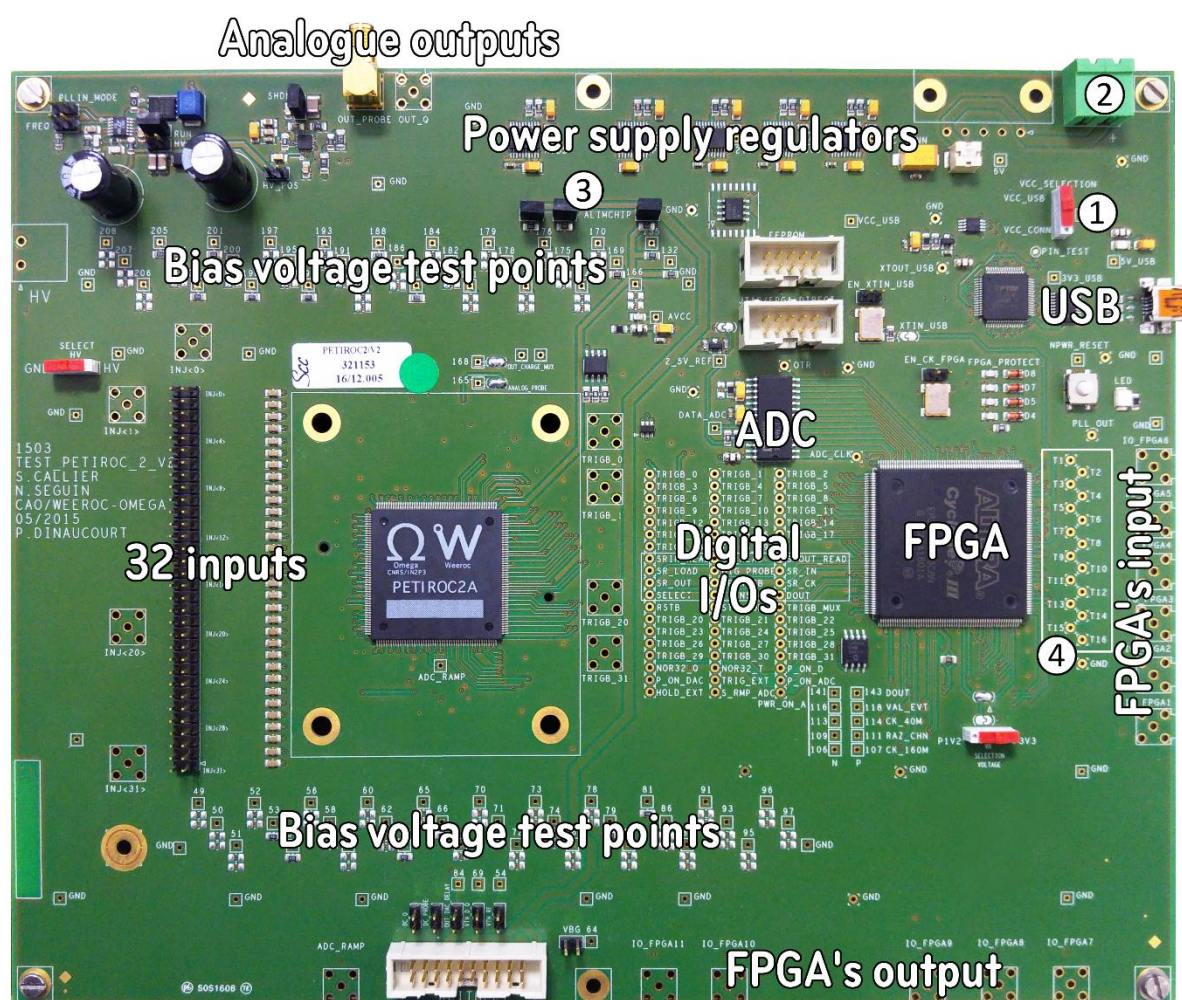

Figure 1 – Top view
- A "VCC_SELECTION" jumper ① allow to choose whether the board is powered through the USB connection or using an external power supply plugged to the top right connector of the board (~6V, ②). The power consumption of the chip can be checked with a voltmeter connected to the dedicated test point
"ALIMCHIP" ③. On the Figure 1 the "VCC_SELECTION" is set on "VCC_USB" so there is no need to plug an external power supply.
- Many test points are also connected to the FPGA ("T1" to "T16", ④), allowing outputting digital internal nodes.